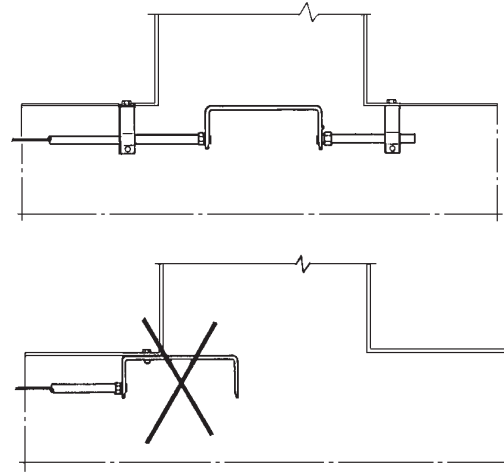

FIGURE 9
2. For a terminal detector located in a duct or header opening, secure both sides of the detector bracket with conduit, as shown in Figure 9.